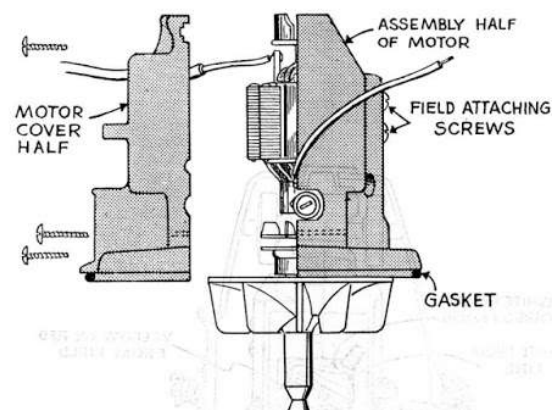

Fig. 7
2. Remove three screws on left side of motor to separate the motor case halves. See Fig. 7.